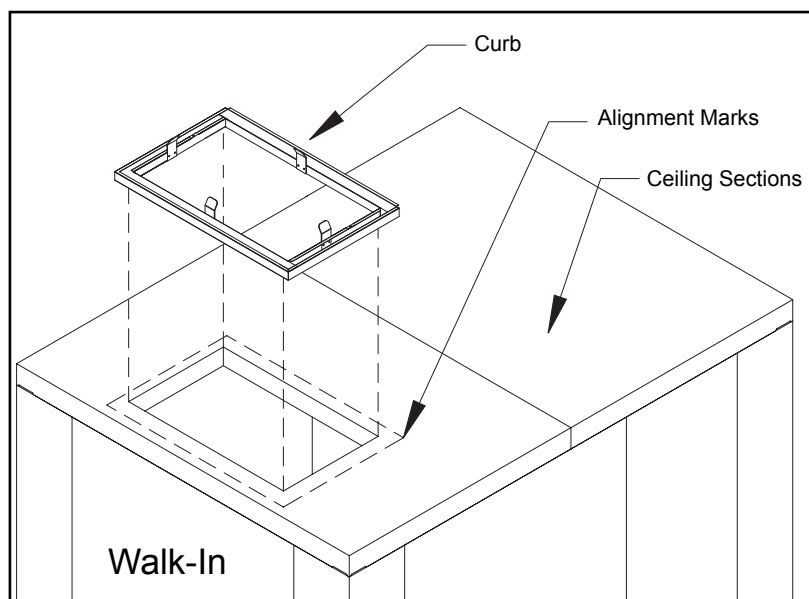

Figure 1
2. Remove the paper from the gasket and position the curb, gasket side down, on the pencil line. Press down firmly. Note: Movement of the curb is very difficult after the gasket adheres to the ceiling section. Refer to Figure 1.